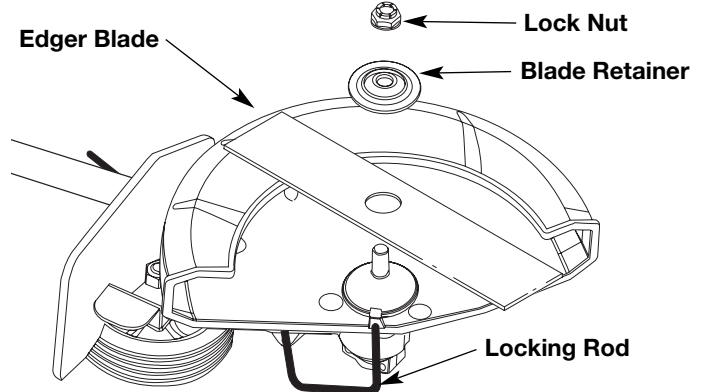
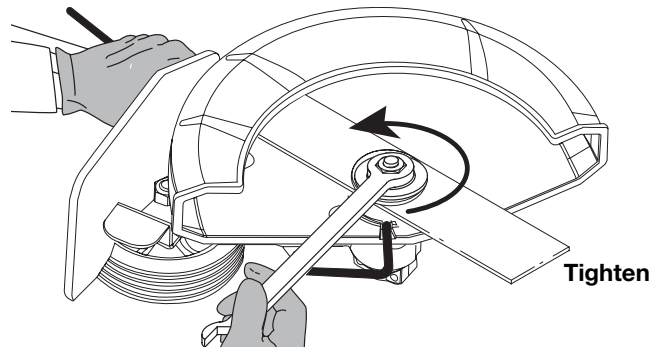

Fig. 10
Fig. 11
4. Install the new blade, blade retainer, and nut (Fig. 10). Insert the locking rod through the slot into the output shaft hole. Make sure that the blade stays flat and centered against the output shaft while tightening the lock nut counterclockwise (Fig. 11).
If you do not have a torque wrench, hold the locking rod in the slot. Rotate the nut counterclockwise with a 5/8 inch closed-ended or socket wrench, until the nut presses against the washer and the blade is snug. Make sure the blade assembly is installed correctly, then rotate the nut an additional 1/4-1/2 turn (Fig. 11).